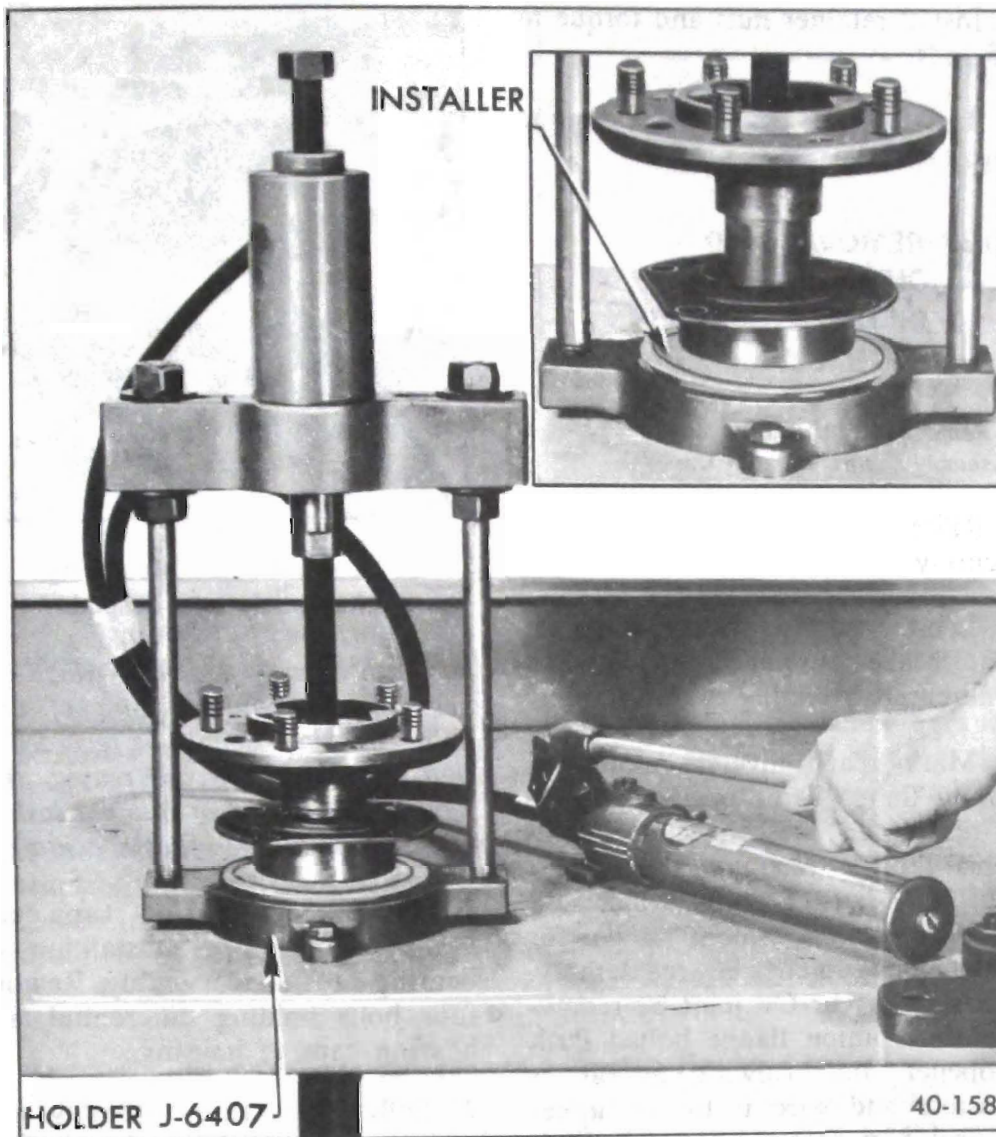

Figure 40-129 Installing Axle Shaft Bearing 46-48-49000 (Except Estate Wagons)
3. Install bearing retainer. Press new and retainer ring against shoulder of axle shaft using Installer J-9739 on 46-48-49000 (except Estate Wagons). See figure 40-129.